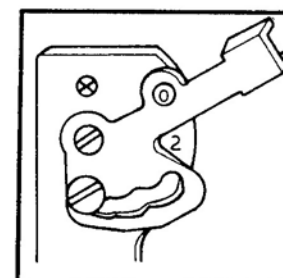

Fig. 3
3. When darning or sewing freehand embroidery, release the pressure by setting the lever on "0". (See fig. 3.)